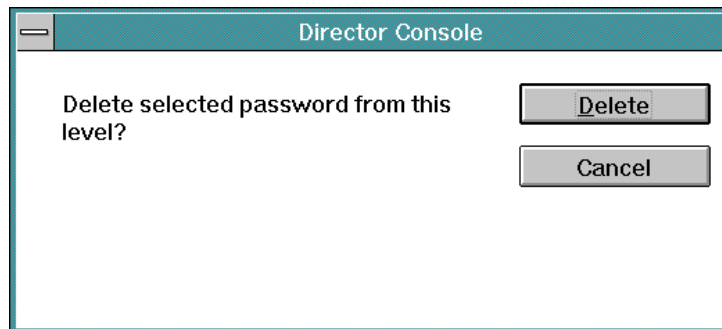

Figure 10-5. Delete Password Dialog Box
4. At the list box, select (highlight) the password and user description to be deleted, and click the *Delete* button. The following dialog box appears (Figure 10-5).